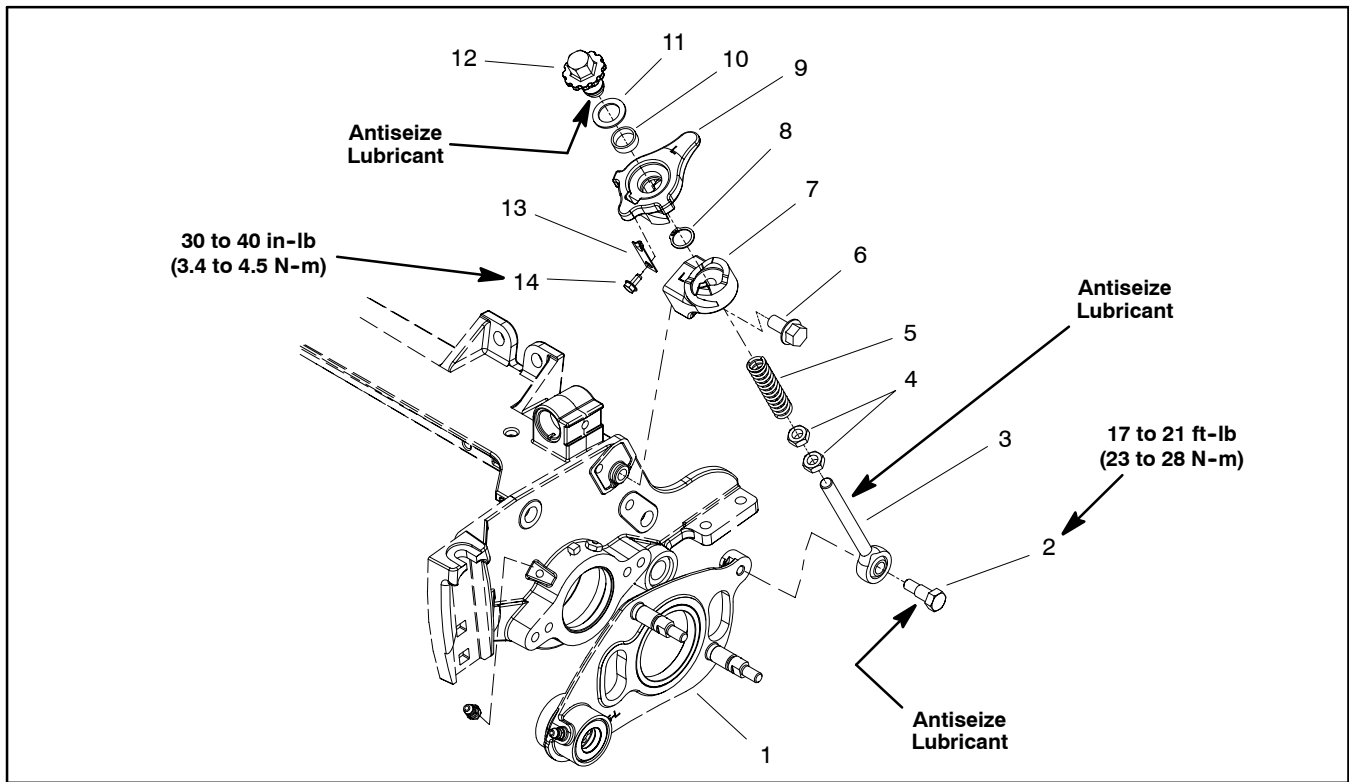

Figure 16
NOTE: The groomer reel drive is located on the opposite side of the cutting unit from the cutting reel hydraulic motor. Figure 16 shows components used when the groomer reel drive is on the left side of the cutting unit.
Disassembly (Fig. 16)
2. Disassemble height adjuster using Figure 16 as a guide.
Assembly (Fig. 16)
1. Assemble height adjuster using Figure 16 as a guide noting the following items:
A. If bushing (item 10) was removed from upper ramp, press new bushing into housing fully to the shoulder in the bore.
B. If jam nuts (item 4) were removed from ball joint rod, apply antiseize lubricant to threads of rod where jam nuts will be positioned. Install jam nuts so that distance from end of ball joint rod to top of upper nut is from 3.060" to 3.180" (7.8 to 8.0 cm).
C. Apply antiseize lubricant to threads of groomer adjuster (item 12) before installing it on threads of ball joint rod.
D. If detent spring (item 13) was removed, secure detent spring to upper ramp with washer head screw. Torque screw from **30 to 40 in-lb (3.4 to 4.5 N-m)**.
2. Secure ball joint rod to groomer plate with shoulder bolt (item 2). Torque shoulder bolt from **17 to 21 ft-lb (23 to 28 N-m)**.